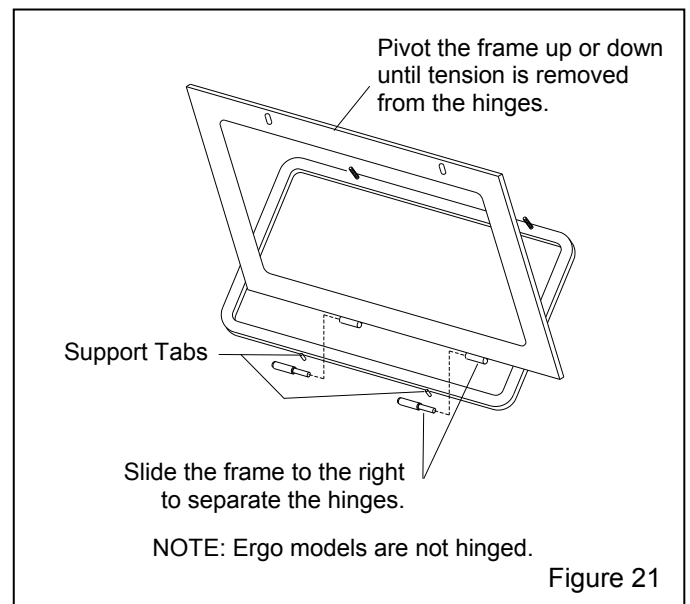

Figure 21
7.6 Window Frame Removal, Figure 21
7.6.4 Slide the frame to the right, to remove. The hinges separate as shown in Figure 21